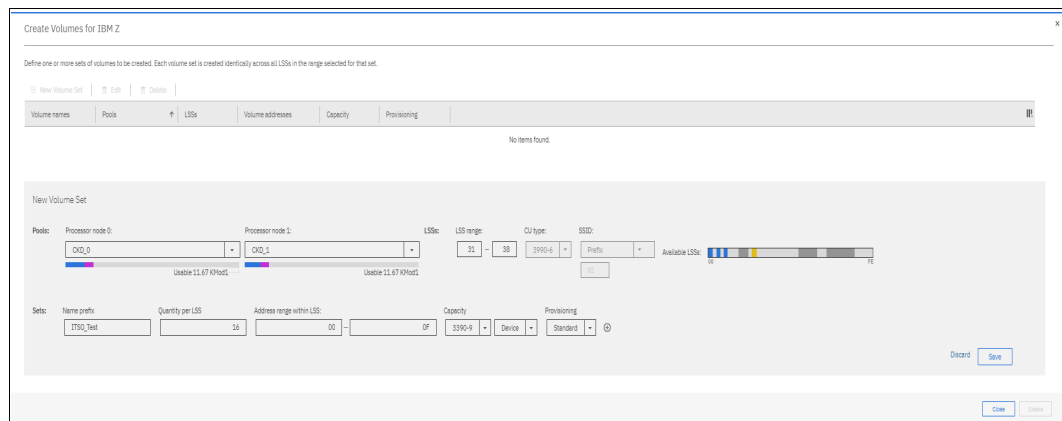

Figure 9-77 Creating multiple groups of CKD volumes
3. Select the **Create Volumes for IBM Z** option under Create Volumes. The Create Volumes for IBM Z window opens, as shown in Figure 9-77.